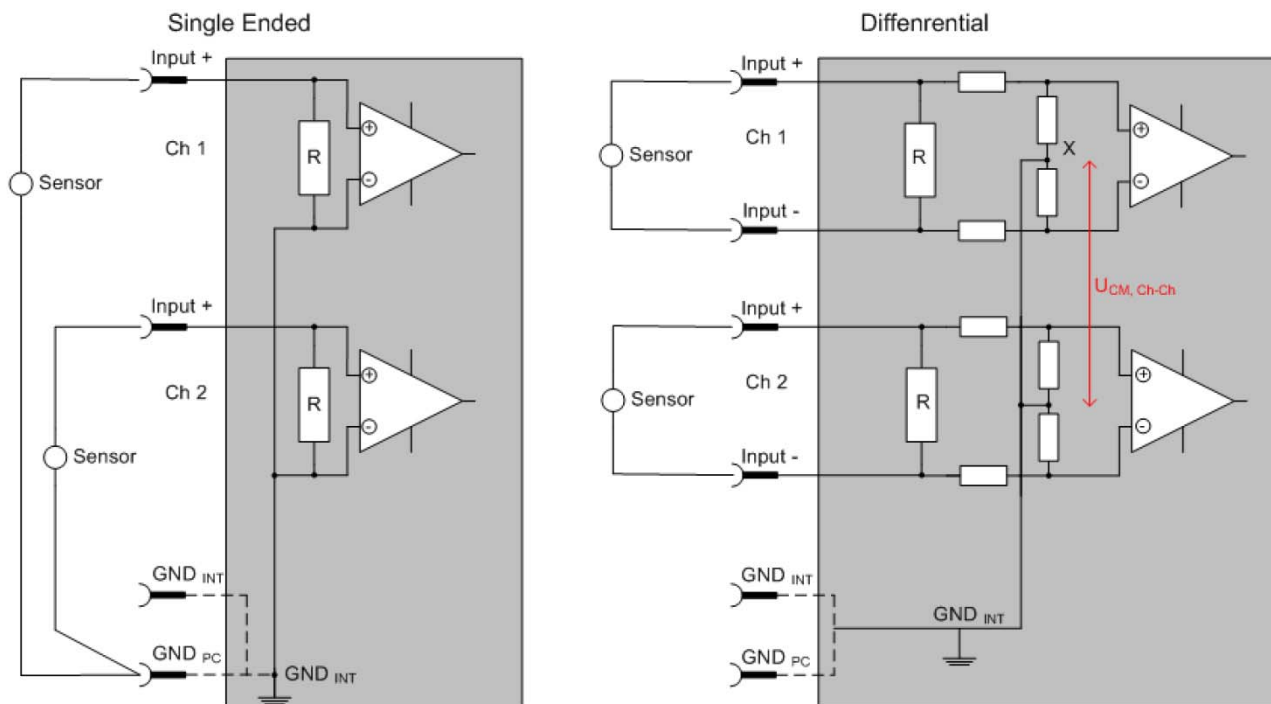

Figure 55: SE and DIFF module as 2-channel version
- Since a differential channel is configured symmetrically internally (cf. ►Figure 55 on page 161), there will be a mid-potential (X) between the two supplied potentials that is the same as the internal ground/reference ground for this channel. If several DIFF channels are used in a module without electrical isolation, the technical property V_{CM} (common-mode voltage) indicates the degree to which the mean voltage of the channels may differ.
- **Single Ended (SE)**